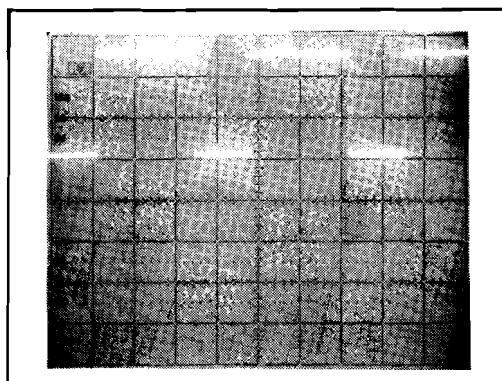

Figure 8-11-2. Control Pulses For Positive Supply.
h. If the power supply is positive, observe that pulses appear on the oscilloscope display and are similar to the ones shown in Figure 8-11-2. If the power supply is negative, the pulses will be inverted and positioned in the negative portion of the oscilloscope display (actual voltage levels may vary between instruments). If no pulses appear, troubleshoot the output transistors of the control circuitry; also check the clock signal for TTL levels. These pulses indicate maximum power output for the switching regulator.